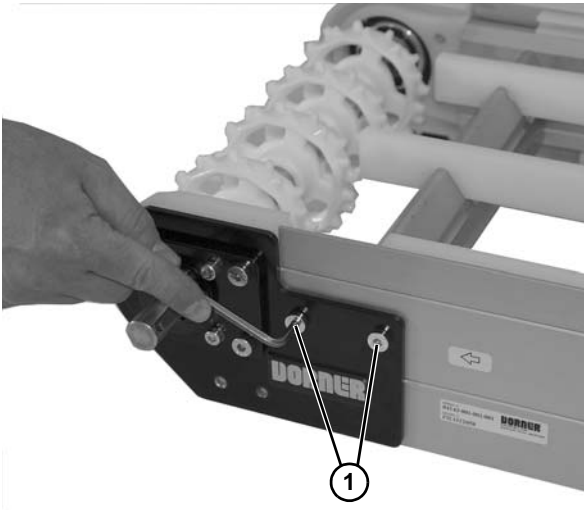

Figure 43
2. Remove the two socket head screws (Figure 43, item 1). Repeat on opposite side.